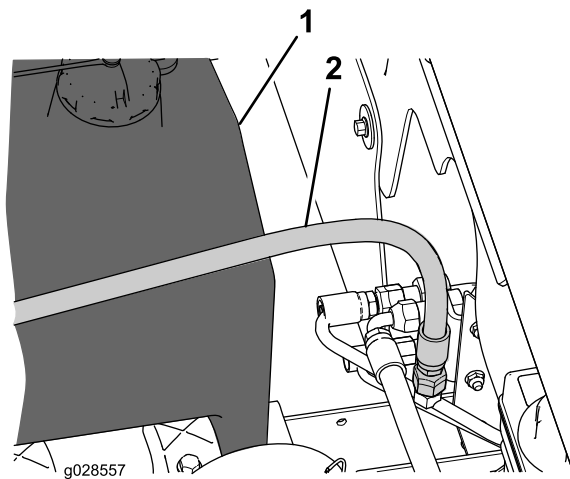

Figure 9
- Remove the cap from the T-fitting in the hydraulic tube next to the hydraulic fluid tank (Figure 9).